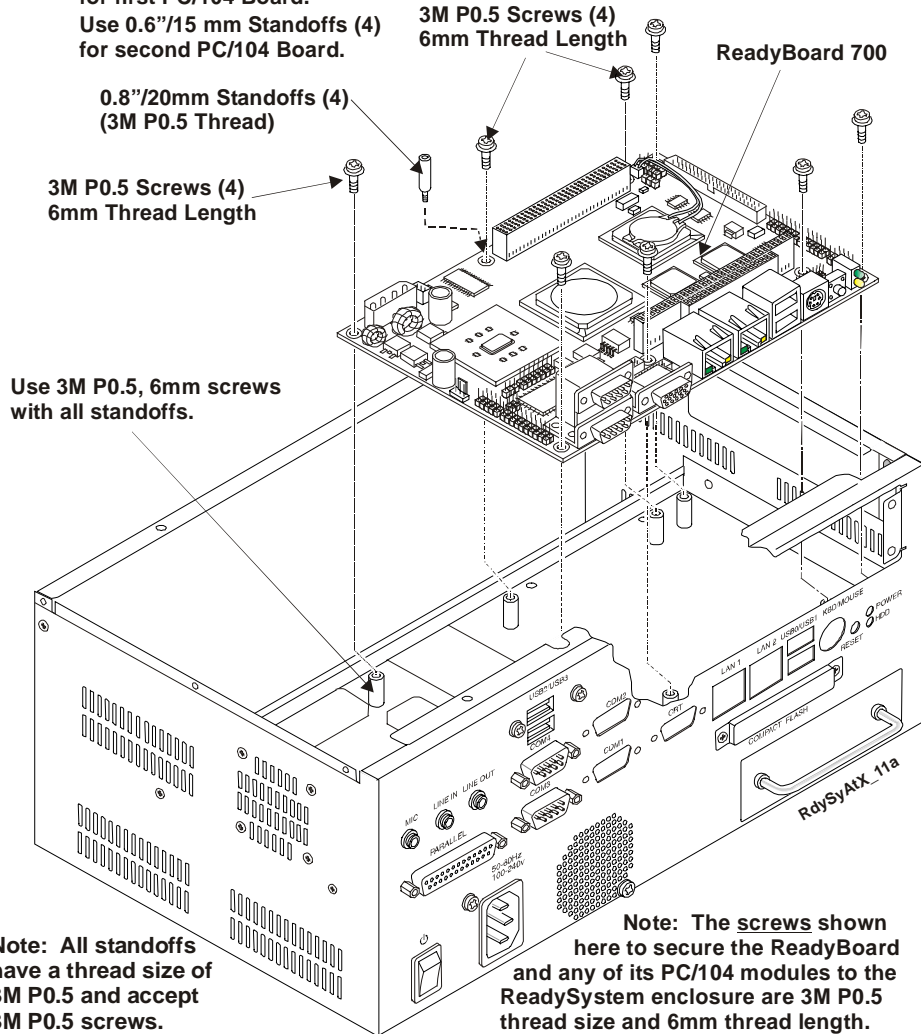

Figure 2-8. Installing ReadyBoard into Enclosure
8. Insert four M3 P0.5 6 mm screws with washers, into the standoffs on the enclosure shelf at the four corners of the board. See Figure 2-8.
9. If you are putting PC/104 board(s) onto the ReadyBoard, insert the four 0.8" (20 mm) standoffs provided with the ReadyBoard at the four PC/104 mounting locations. See Figure 2-8.
- ◆ Insert four M3 P0.5 6 mm screws with washers at the four PC/104 mounting locations on the first expansion board, if you are not installing a second PC/104 expansion board. See Figure 2-8.
- ◆ If you are putting a second PC/104 expansion board onto the ReadyBoard, insert the four 0.6" (15 mm) standoffs on the first PC/104 expansion board provided with the expansion board at the four PC/104 mounting locations. See Figure 2-8.
10. If you are not putting any PC/104 board (s) onto the ReadyBoard, insert four M3 P0.5 6 mm screws with washers at the four PC/104 mounting locations on the ReadyBoard. See Figure 2-8.